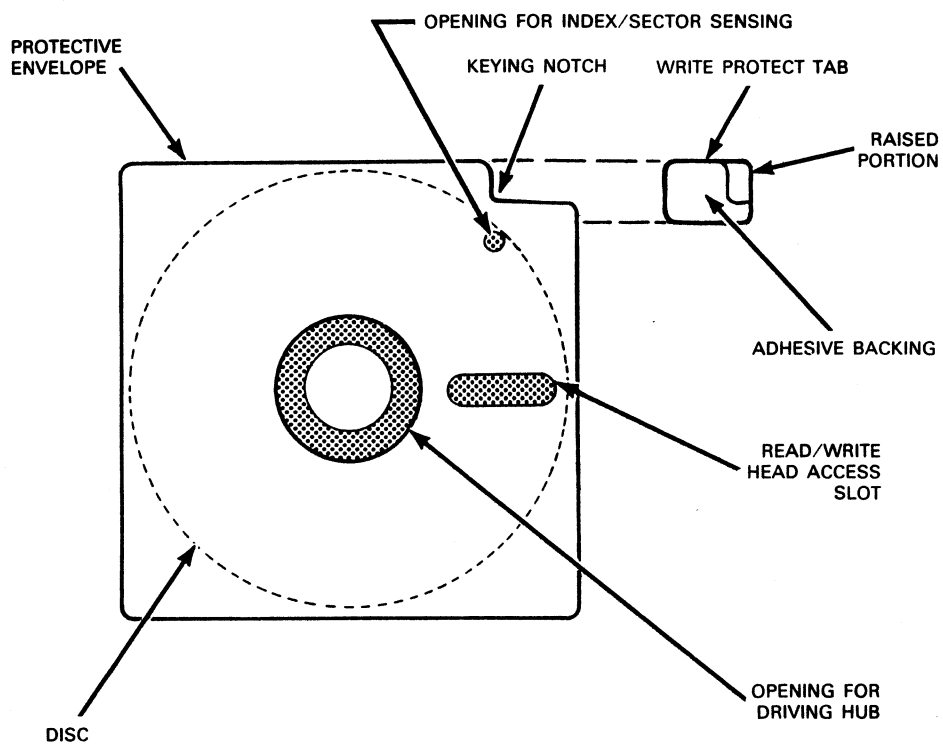

Figure 3-9. Write Protect Tab Insertion
- 3) Place the XFD-108 chassis unit(s) in foam pads, as shown in Figure 3-9 and place the chassis and pads in the container. Note that there is a right-hand and a left-hand pad; the cutout goes to the bottom of the chassis unit.